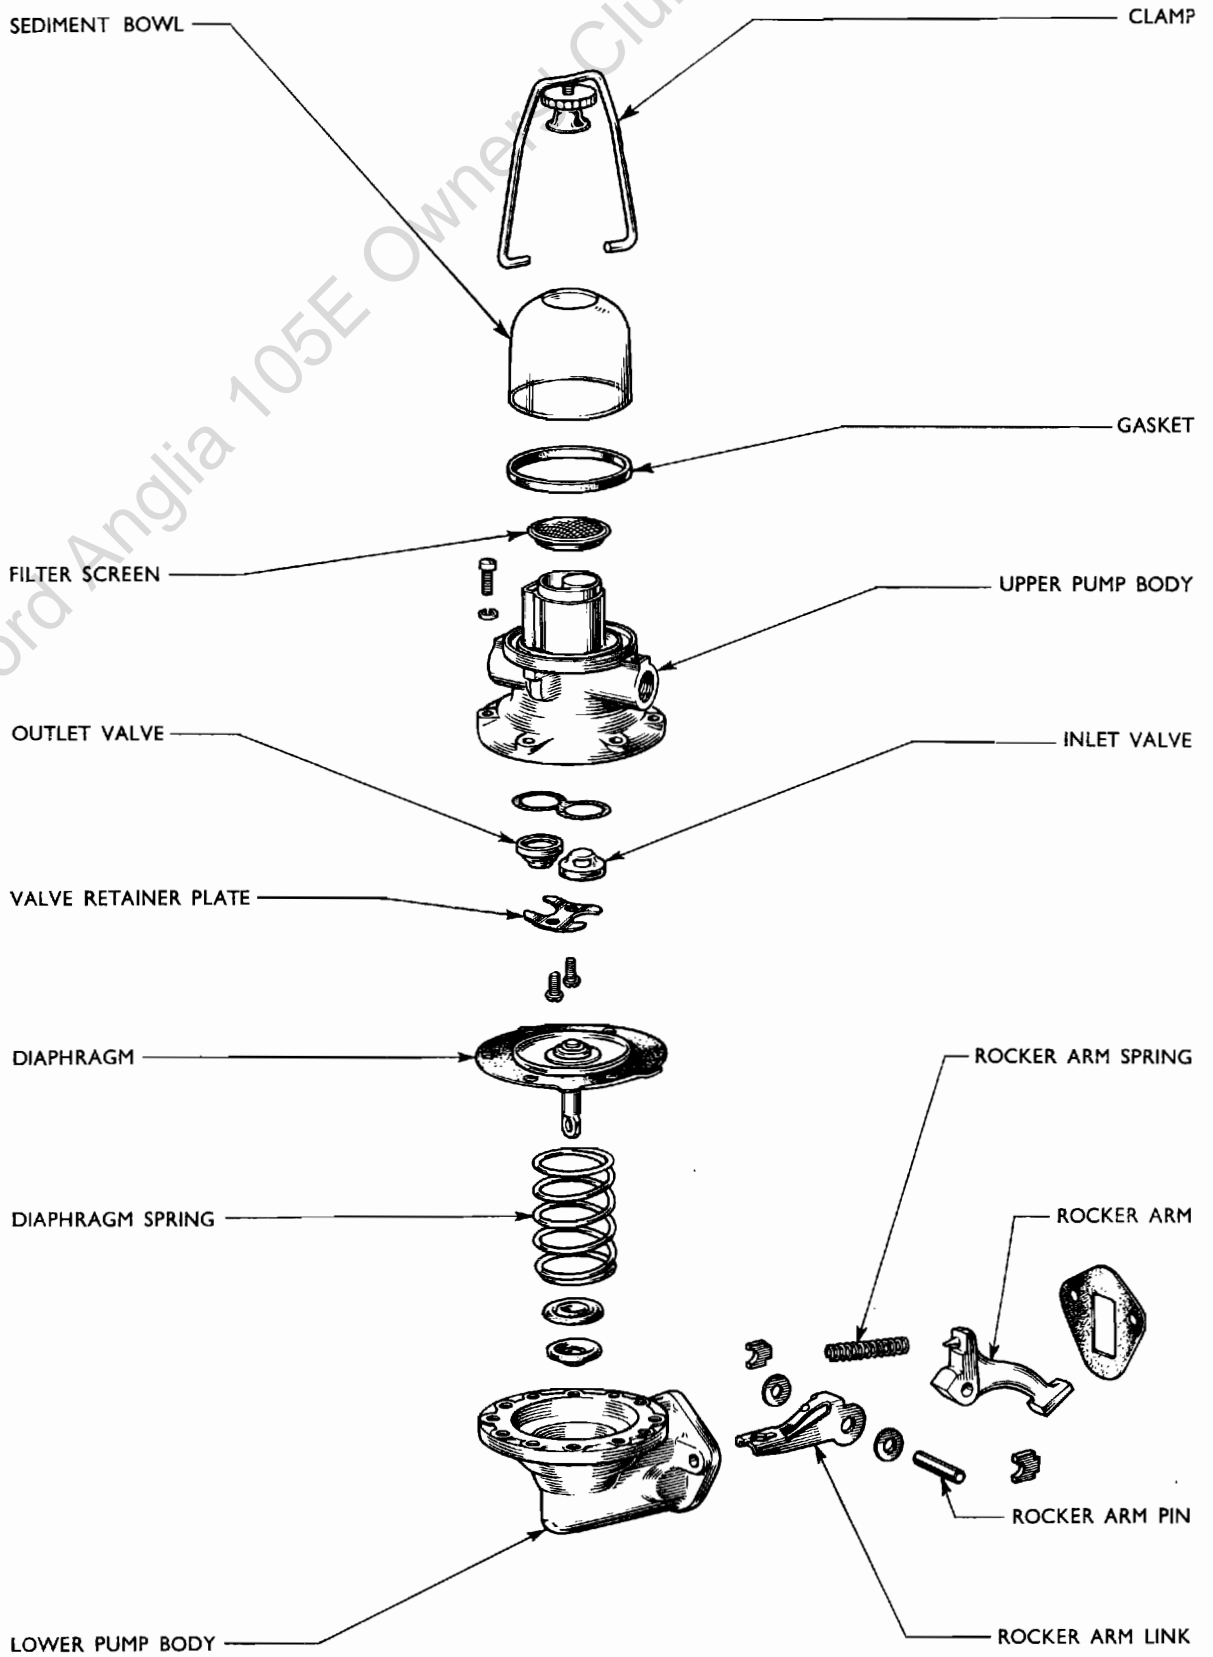
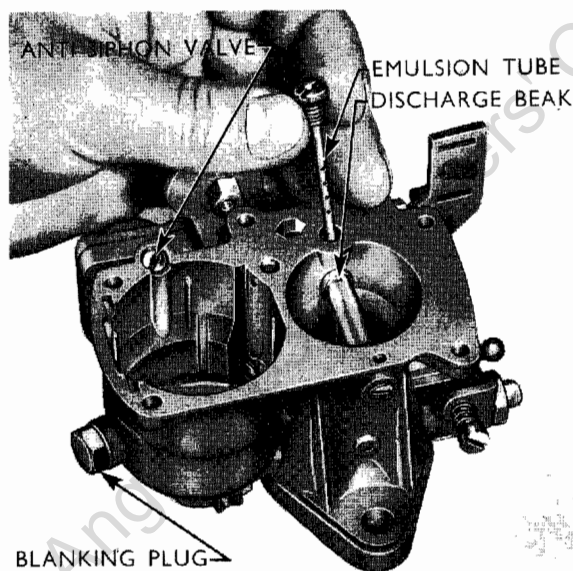

Fig. 2
Fig. 8
The fuel pump incorporates valve assemblies which are serviced as complete units. Each unit consists of a small brass cage holding the valve and spring which can be fitted in either inlet or outlet position (see Fig. 2).
1. (a) Position the rocker arm, with the boss between the flanges of the link, ensuring that the central web of the link and the spring seat location on the rocker arm are both uppermost (see Fig. 2). Align the holes in the link and rocker arm and insert the pivot pin.
3. Hold the upper body with the valve locations uppermost. Fit the "figure 8" gasket in the upper body, then fit the two valve assemblies as shown in Fig. 2. Note that these will only seat properly when in their correct locations the correct way up.